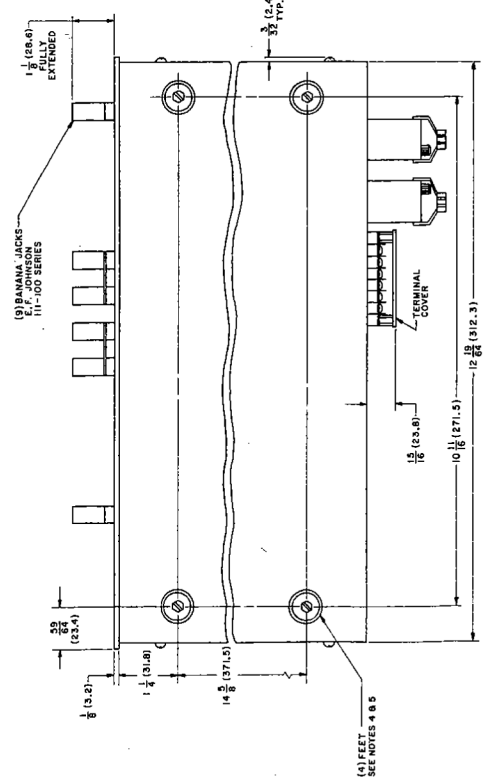
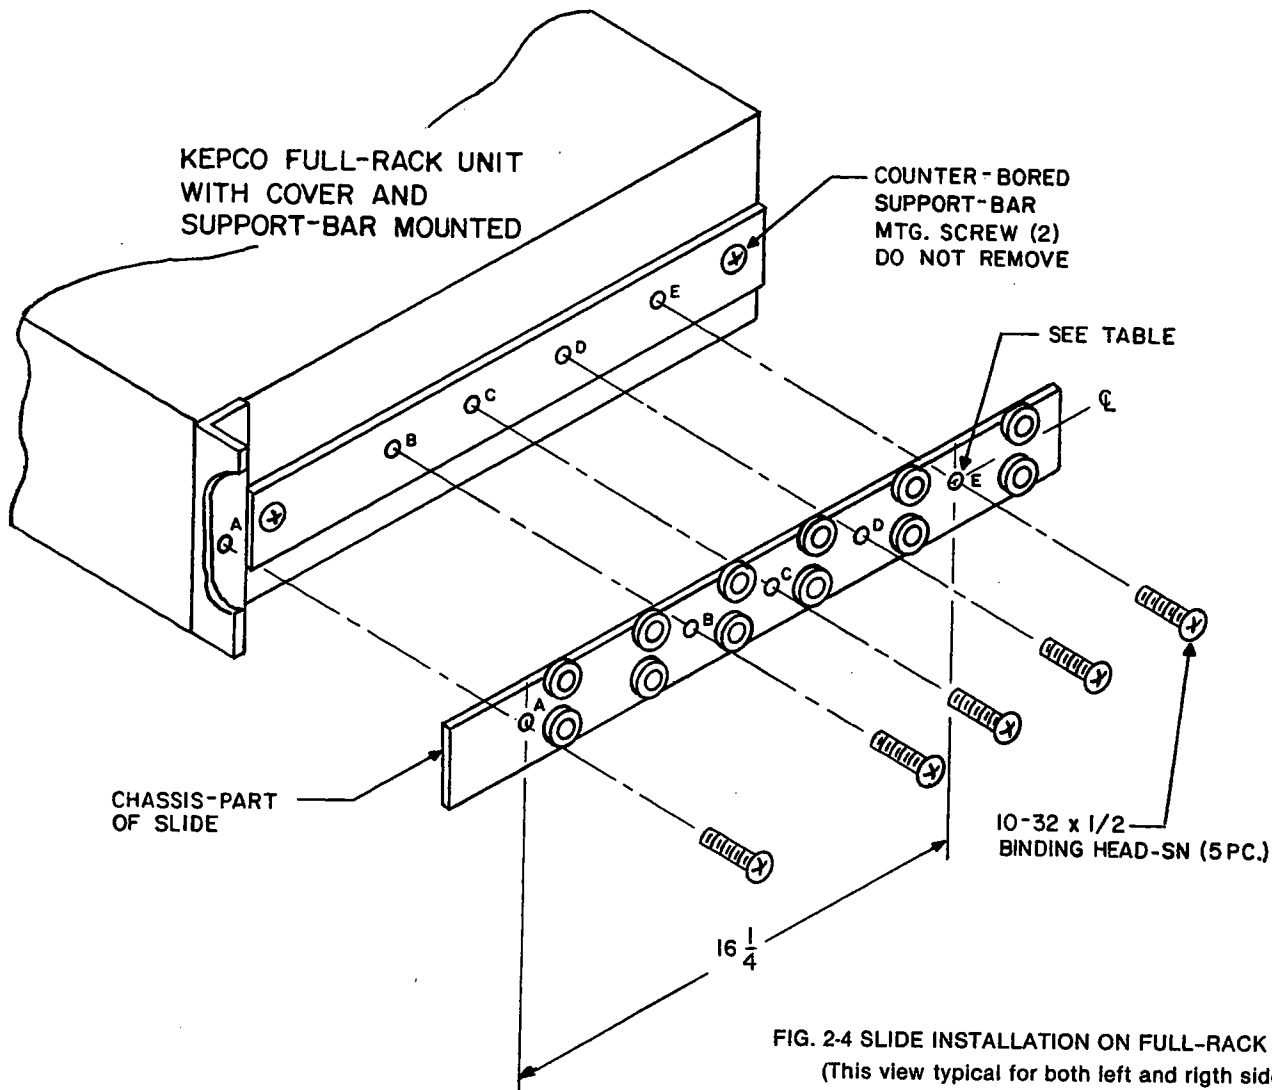

FIG. 1-4 MECHANICAL OUTLINE DRAWING, 3/4 RACK MODELS (SHEET 1 OF 2)
FIG. 2-4 SLIDE INSTALLATION ON FULL-RACK UNITS (This view typical for both left and right side)
- A) **DIMENSIONS:** See "Mechanical Outline Drawing". FIG. 1-4.
- B) **FINISH:** See "Mechanical Outline Drawing". FIG. 1-4.
- C) **FRONT PANEL METERS:** Two (2) "zero center" meters, monitoring the \pm d-c output voltage and the \pm d-c output current, are provided; 2½ inches wide, recessed; Accuracy, $\pm 2\%$ full scale.
- 2-11 These BOP models may be bench operated or installed in the RA-24 or RA-37 Rack Adaptors, as listed in Section I, Paragraph 1-13. Installation instructions are provided with the respective rack-adaptor models. For rack-mounting, or mounting onto any flat surface, the (4) bottom aluminum feet of the BOP must be removed. Four (4) plastic mounting inserts are provided on the bottom of the BOP chassis. See Section I, FIG. 1-4, "Mechanical Outline Drawing".
2-12 INSTALLATION OF FULL-RACK BOP MODELS (Refer to Section I, Fig. 1-4 and to FIG. 2-4).
2-15 PROCEDURE (Refer to FIG. 2-4):
- 4) Mount the chassis section of the slide to the left and right side of the BOP, as shown in FIG. 2-4. Use the same 10-32 x 1/2" Mounting Screws which you removed in step (1).